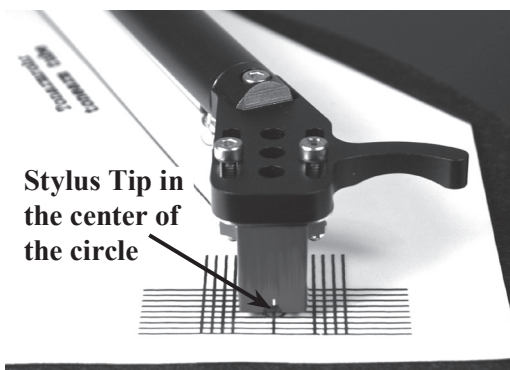

Figure 23
4. It is important the Front and Sides of the Cartridge Body line up with these parallel lines when looking down over the top of the Tone Arm. Refer to figures 23 and 24. If it is not parallel, loosen the mounting hardware securing the Phono Cartridge to the Tone Arm. Reposition the Phono Cartridge so the tip of the stylus is in the center of the small circle and the Front and Sides of the Phono Cartridge are parallel to the lines on the Alignment Gauge. Tighten up the mounting hardware and verify the correct alignment.